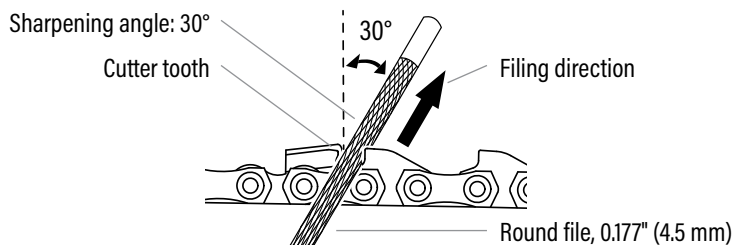

Fig. 10
5. Maintain a 30° sharpening angle between the file and the saw chain (Fig. 10). Always use a file holder (sold separately) to ensure proper angle; file holders typically include angle markings.